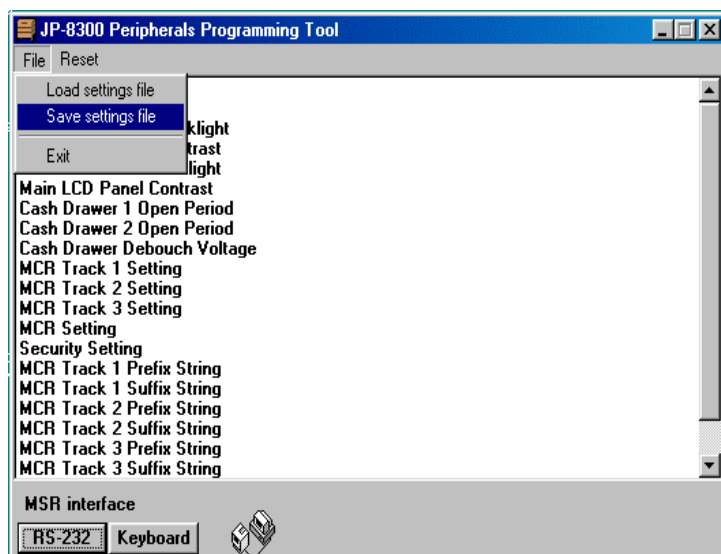

Figure 3-3
2. Save setting and load setting(See figure 3-3):